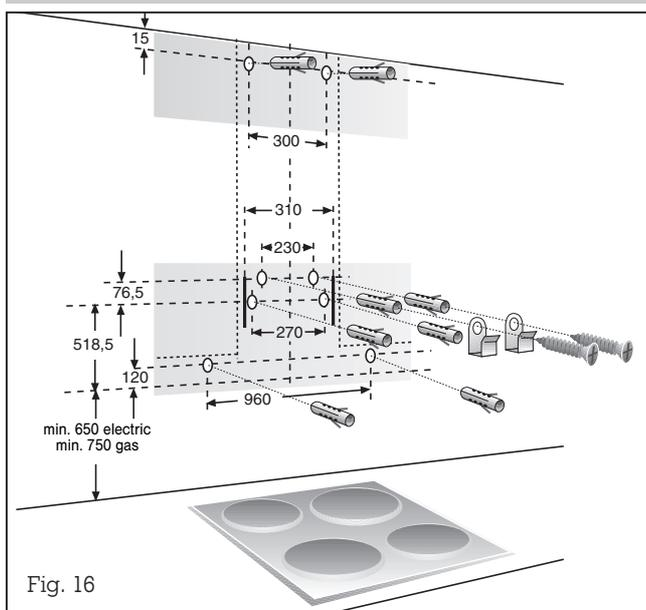

Fig. 16
- With the aid of the drilling template, mark the positions of the screws on the wall. Mark the contour of the hook-in area. This will make it easier to hook in the hood (Fig. 16).